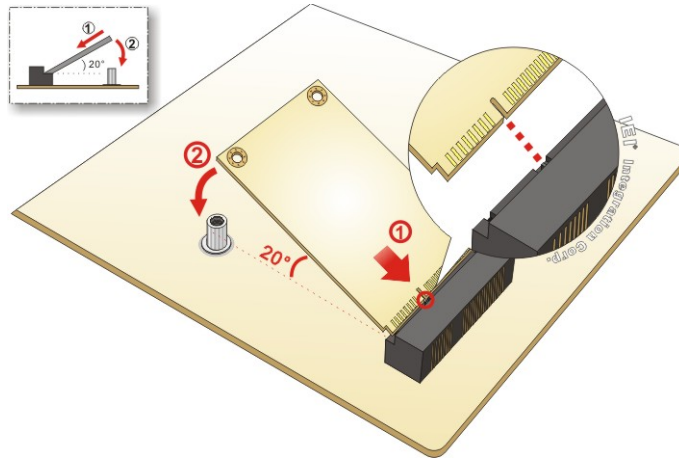

Figure 3-8: Inserting the Full-size PCIe Mini Card into the Slot at an Angle
Step 4: Line up the notch on the card with the notch on the slot. Slide the PCIe Mini card into the socket at an angle of about 20° (Figure 3-8).